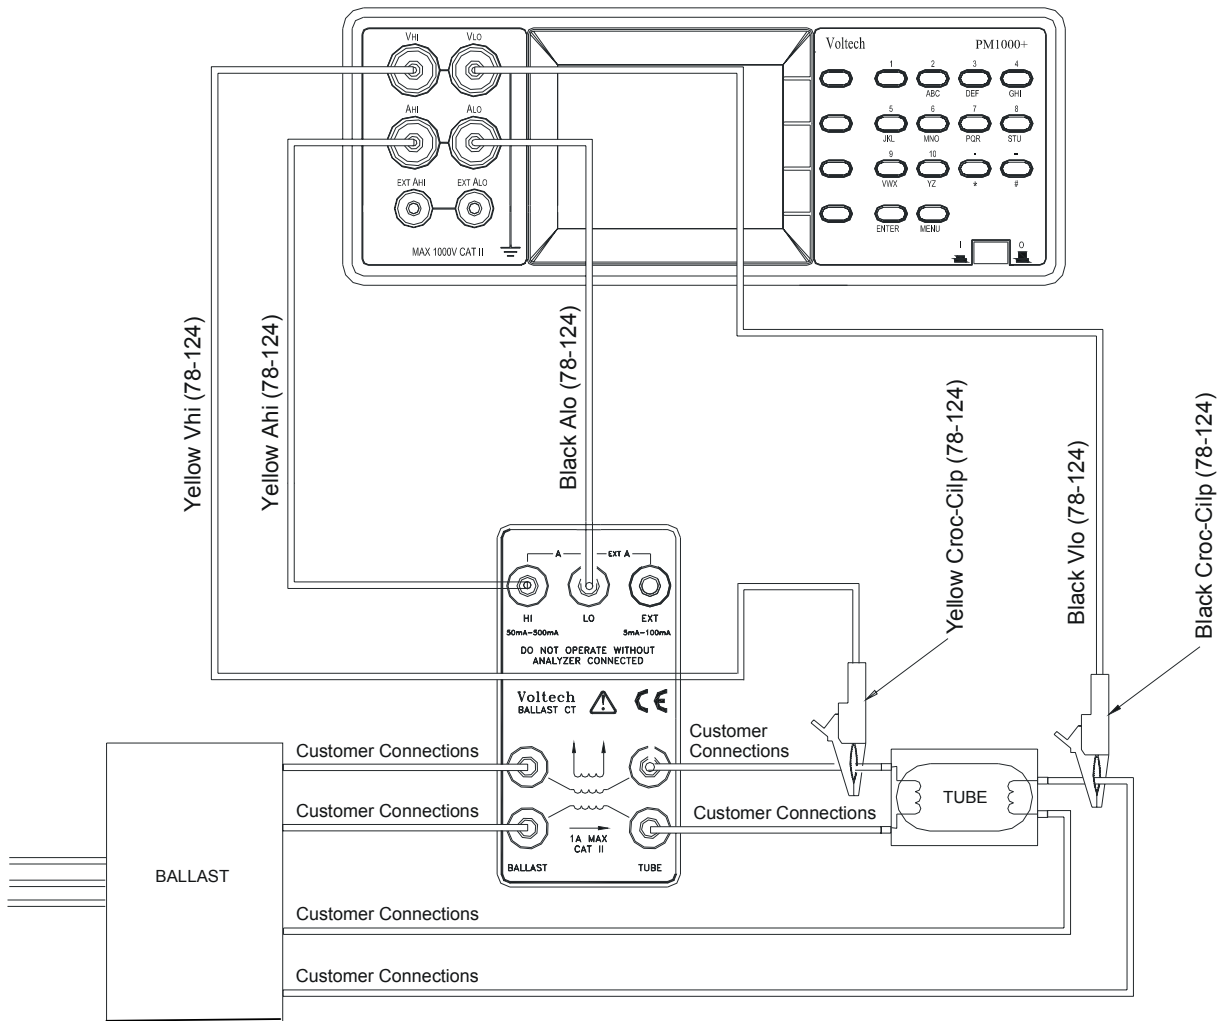

Figure 3
- Customer supplied leads to connect from the ballast to the tube as shown in figure 3.
Connect the Lighting Ballast as shown above (figure 3).